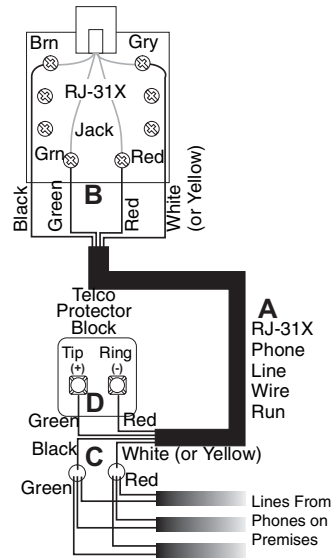

Figure 16. Installing an RJ-31X Phone Jack
1. Run a 4-conductor cable from the TELCO protector block to the jack location (see A in Figure 16).
2. Connect one end of the cable to the jack (see B in Figure 16).
3. At the TELCO protector block, remove the premises phone lines (lines from phone jacks on premises) from the block and splice them to the black and white (or yellow) wires of the 4-conductor cable (see C in Figure 16).
4. Connect the green and red wires from the 4-conductor cable to the TIP (+) and RING (-) posts on the block (see D in Figure 16).